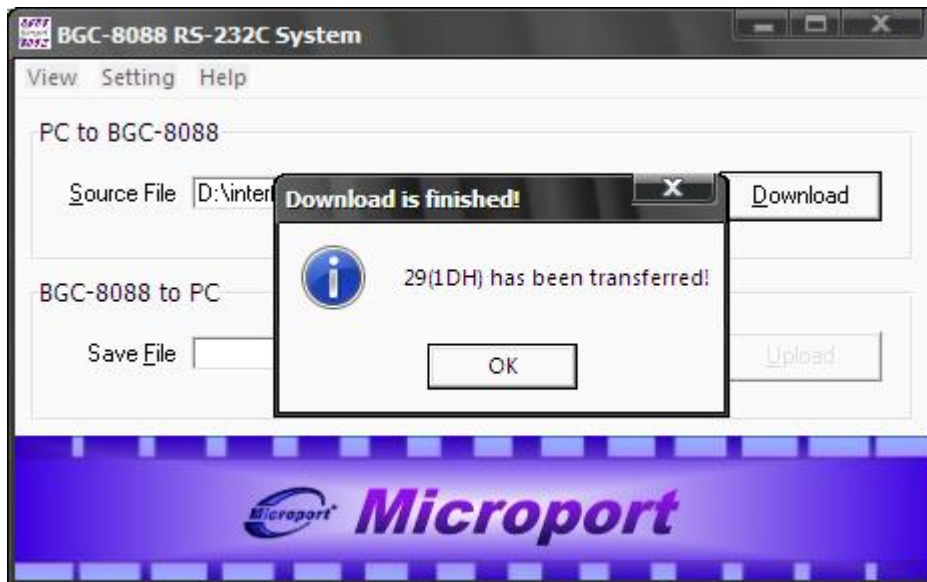

Figure 7
- h) Now press the Download button in the other side (PC), the transmission is started, after completion the total number of bytes transferred is displayed on the LCD of the KIT and on the PC. (see figure 7)